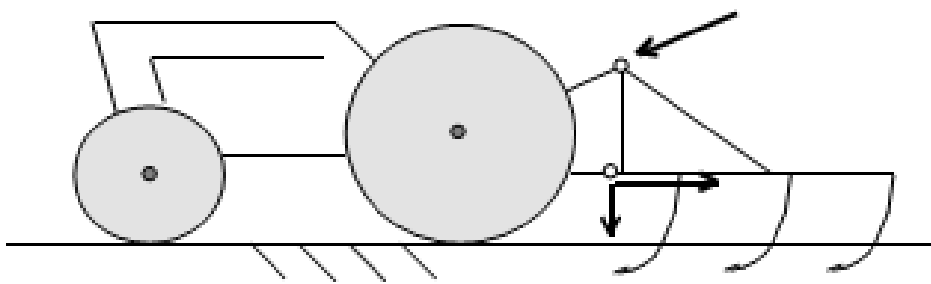

Figure 6.3: Fully mounted, rear three-point linkage hitch.
c) Fully mounted - three point hitch Here the implement is attached to the tractor by means of the three-point linkage as shown in Figure 6.3. In this side view the lower two points are coincident; the upper point is midway between, but above the lower two. This system totally constrains and allows complete control of the implement. It is not free to swing in space like the trailed implement, nor in the vertical plane like the semi-mounted; it must operate in the position determined for it by the linkage. The exception to this statement is that the implement is usually free to rise, ie, it is not held down by the linkage. If it does rise, it will be due to the upward soil forces being greater than implement weight; it will, however, move in a way determined by the kinematics of the linkage. In the vertical longitudinal plane (Figure 6.3) the linkage has the form of a mechanism known as a 'four link chain', the characteristics of which are treated in books on kinematics. We can identify the four links as shown in Figure 6.4: